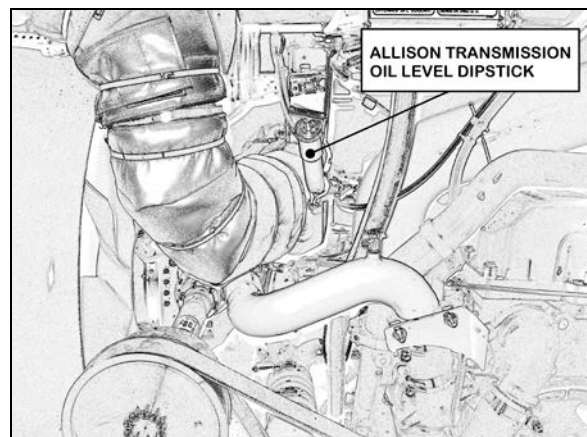

FIGURE 4: OIL LEVEL DIPSTICK (AUTO. TRANS.) 07113
To gain access to the dipstick, open the engine compartment rear doors; dipstick is located on the radiator side of the engine (Fig. 4).
4. While the engine is running, remove the dipstick from the tube and wipe it clean (Fig. 4). Insert the dipstick into the fill tube, pushing down until it stops.